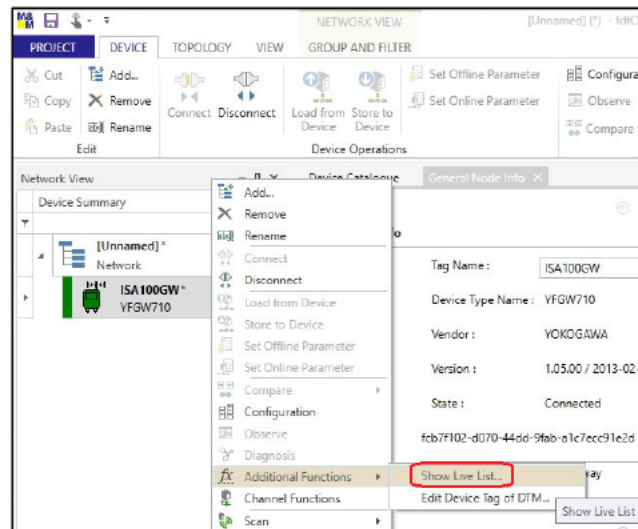

Figure 5-42 Selecting "Show Live List..". menu
- ④ Next, check to confirm that fdtCONTAINER and the ISA100.11a wireless upstream system are correctly connected. Right-click "ISA100GW" in the tree menu on the left side of the main window, then select "Show Live List...". (Figure 5-42)